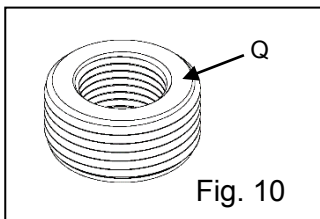

Fig. 10
1. Type S1R10FFCVRxxx series furniture feed covers are supplied with closure plugs (O) and (P) for the 1" and 2" openings and 1" to 3/4" reducer (Q) Fig. 10. Openings must always be plugged when not in use. If installation requires closure plugs (O) and/or (P), tighten plugs into threaded hole, and apply electrical type of RTV silicone sealant to ensure water tightness. If installation requires screw-in connector fittings (not supplied), tighten screw-in connector fittings into threaded hole apply electrical type of RTV silicone sealant to ensure water tightness.